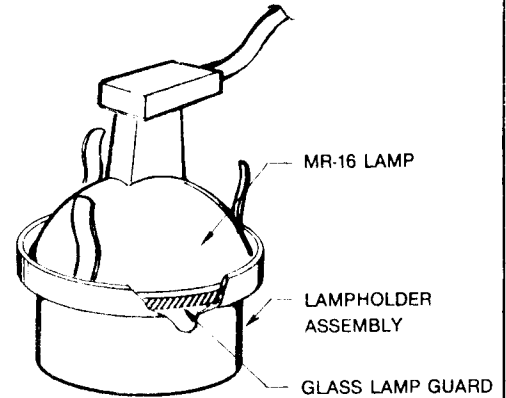

FIG. 1
2. Remove LAMPHOLDER ASSEMBLY from fixture. See Fig. 1. Note: Style of lampholder assembly will vary from fixture to fixture.